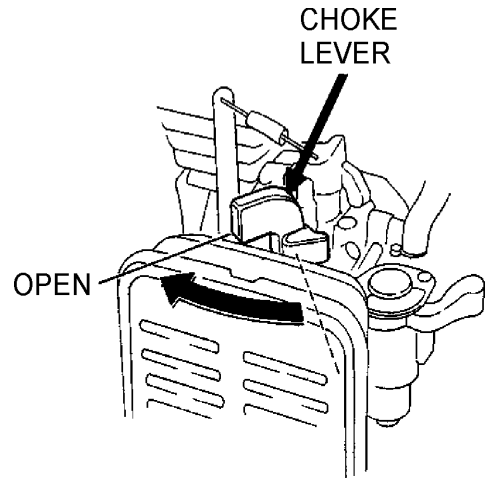

Figure 22. Engine Choke Lever (Open)
3. Place the ***choke lever*** (Figure 22) in the "OPEN" position if starting a ***cold*** engine.